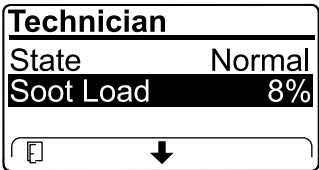

Figure 47
- View the soot load which is measured as the percentage of soot in the DPF(Figure 47); refer to the soot-load table.